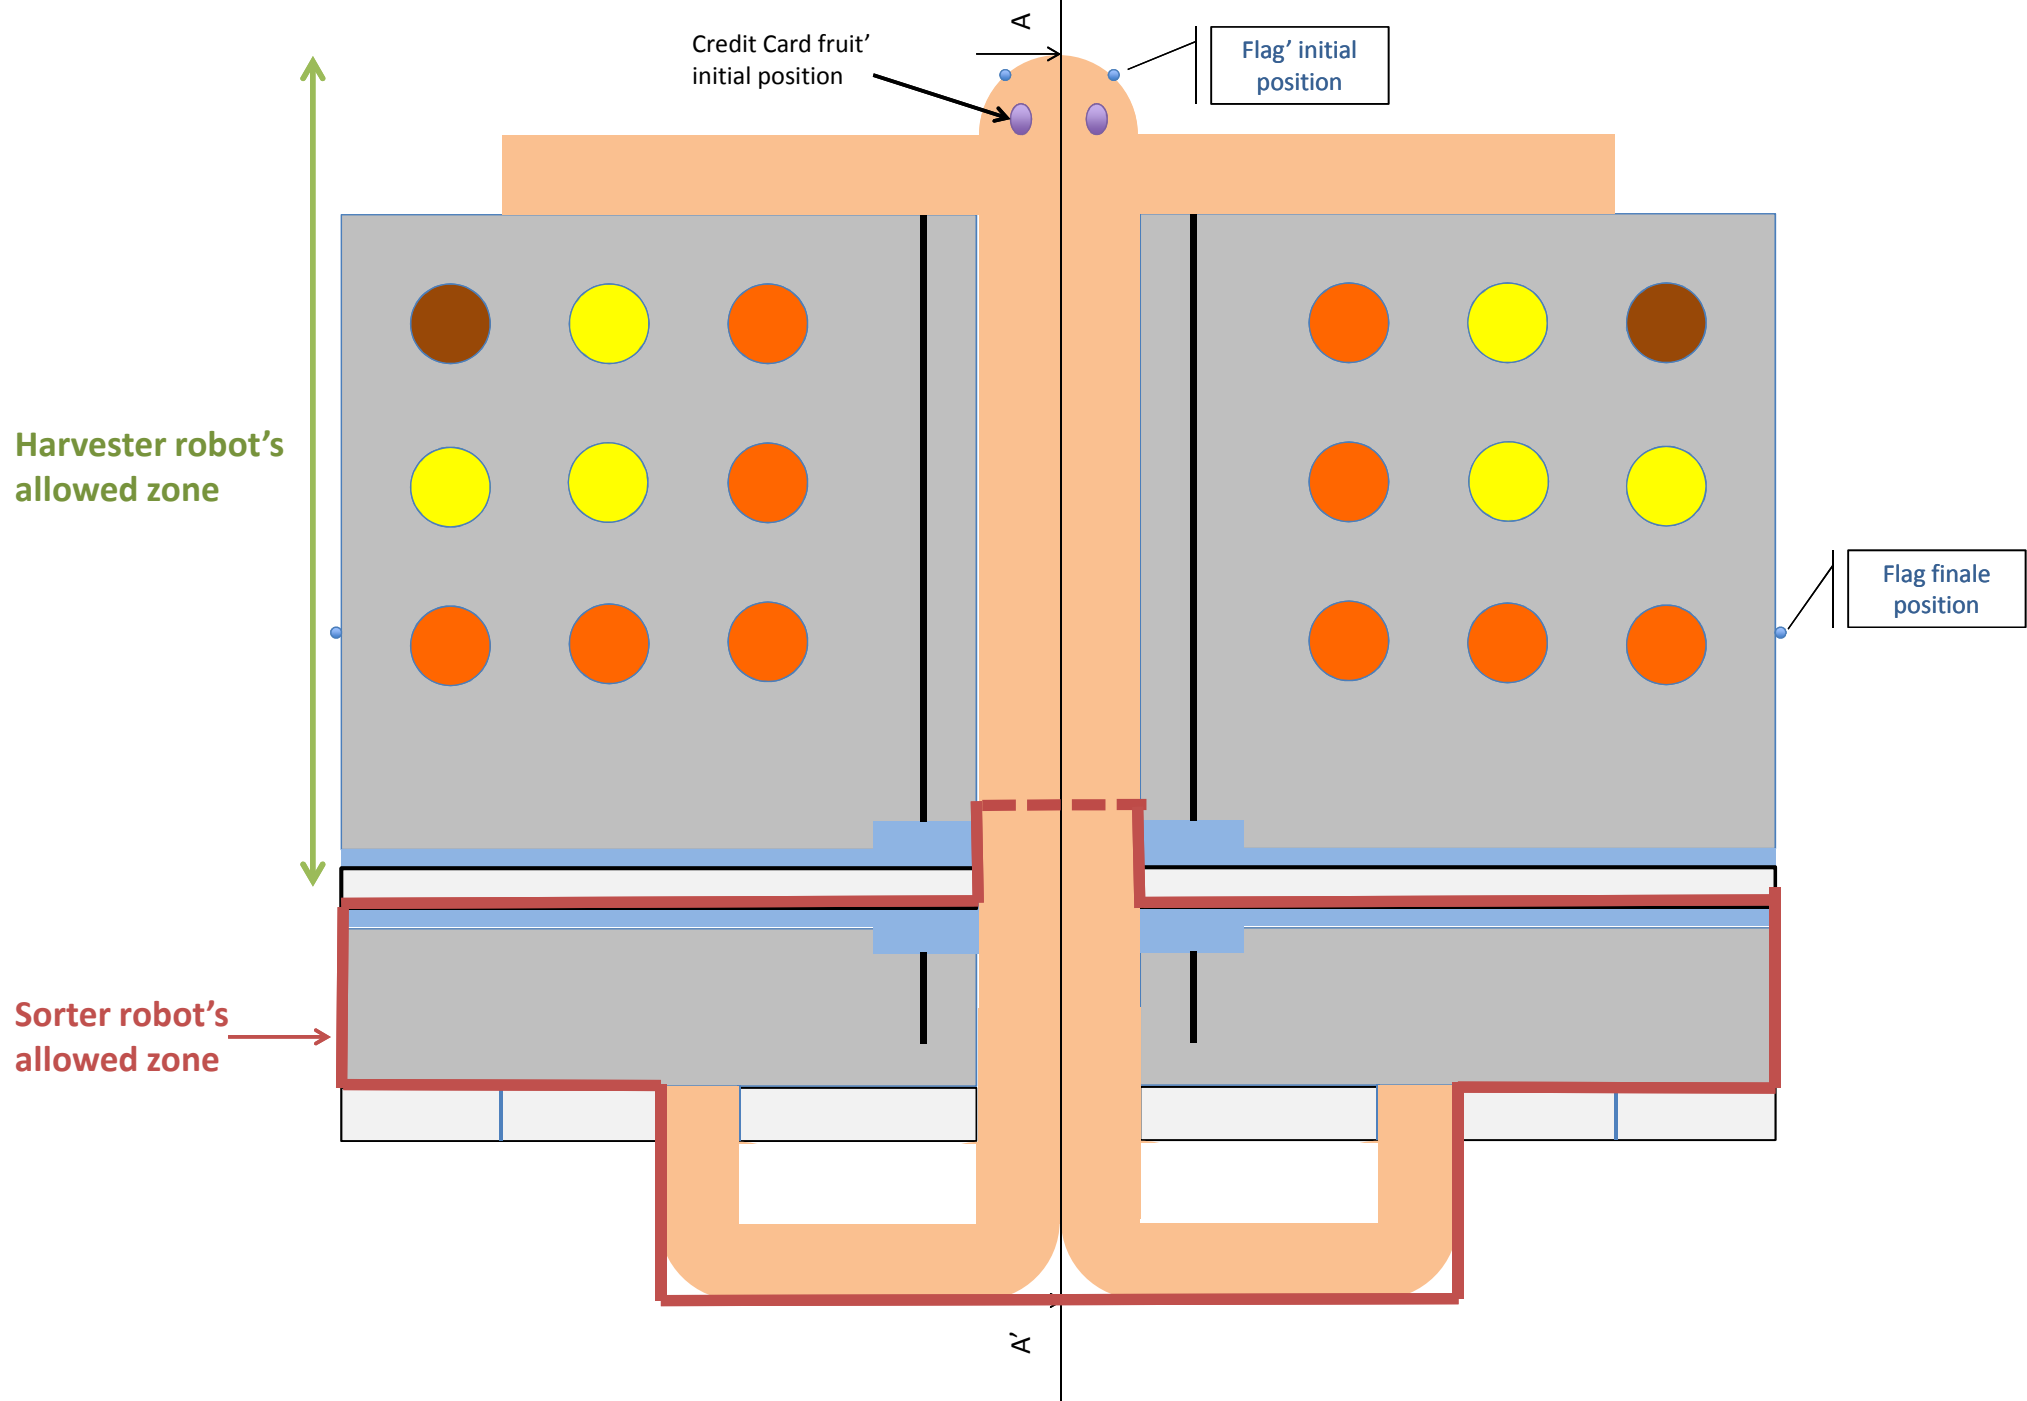

Figure 1 : View of the contest field.
- 3) The detailed dimensions of the field are given in figure 1, 2 and 3.